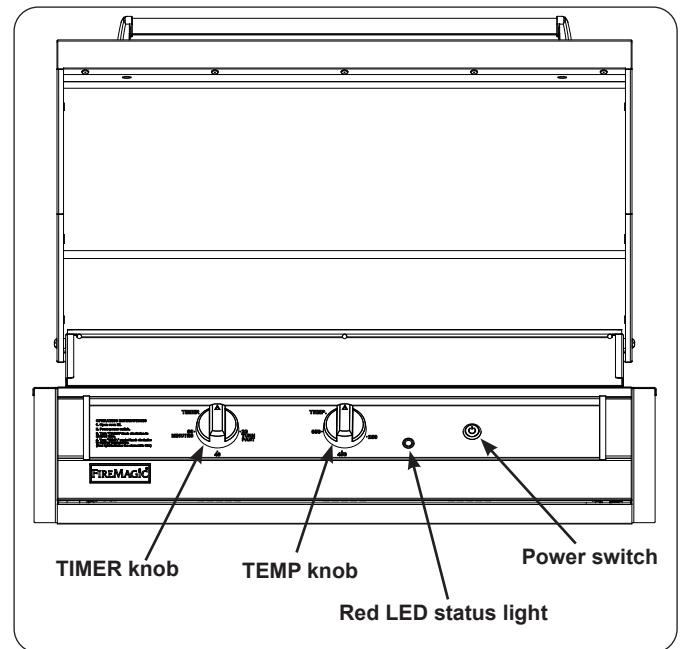
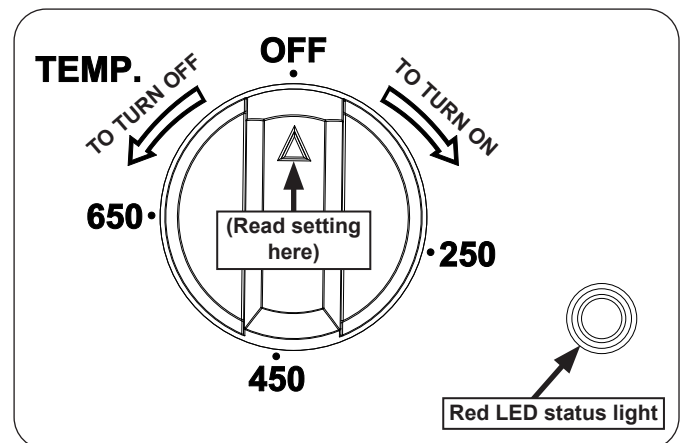

Fig. 33-1 Controls
Fig. 33-3 Temperature control
3. Press the power switch (see Fig. 33-1).
5. Turn the **TEMP** knob clockwise to the desired temperature. (The red LED status light indicates the heating elements are **ON**.) See Fig. 33-3.
To shut off the unit, turn the **TEMP** and **TIMER** knobs counterclockwise to the **OFF** position (see Fig. 33-3), THEN turn off the power switch.
For your convenience and safety, when the heating elements are on, the red LED status light will illuminate (see Fig. 33-1 and Fig. 33-3).